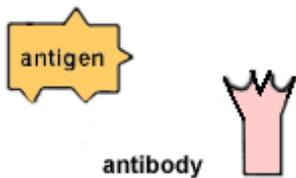

FIG. 6. Sponge cut to resemble an IgG antibody molecule whose variable region is not complementary to the antigen in Fig. 1.
C. Negative control packet. Cut a sponge into a Y-shape so it resembles an IgG antibody molecule. In the section of the sponge representing the variable region, cut out shapes that are not complementary to the epitopes shown in Fig. 1 (Fig. 6). Glue the corresponding piece of Velcro on this variable region as indicated in part B. Place in a plastic bag labeled "Negative Control".